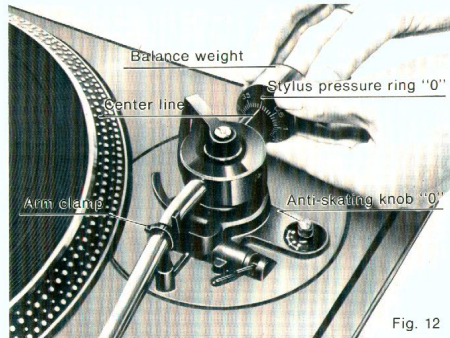

Fig. 12
5. After the tonearm is horizontally balanced, temporarily fix the tonearm by the arm clamp. (Refer to Fig. 12) Hold the balance weight stationary with fingers as shown in Fig. 12 and rotate only the stylus pressure ring to bring the numeral "0" of the ring into alignment with the center line on the tonearm rear shaft. (The adjustment of the horizontal balance is now completed.)
- 2) Ensure that the anti-skating knob is at "0" position. (See Fig. 12)